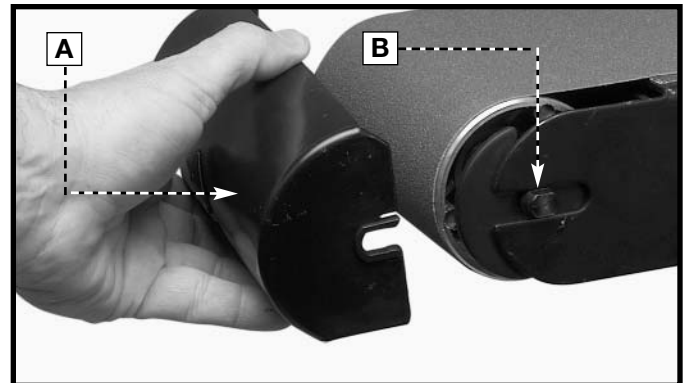

Fig. 36
You can remove the upper sanding drum guard (A) Fig. 36 to sand inside curved work or to change the belt. To remove:
- Pull outward on the guard (A).
- After the sanding operation is completed or the belt is changed, replace the guard (A) Fig. 36 on the two studs (B), one of which is shown.